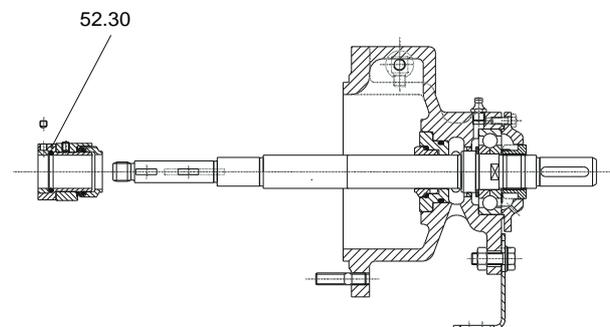

Fig. 4
12. Mark position of mechanical seal. Loosen the locknut on shaft sleeve 52.30 and remove with the mechanical seal rotary element (fig. 4).